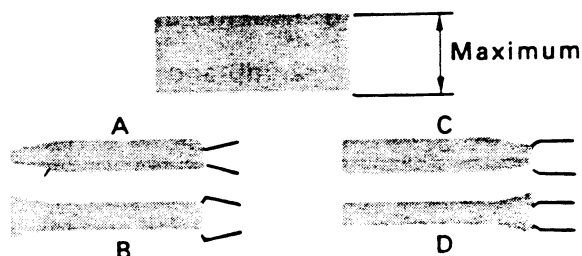
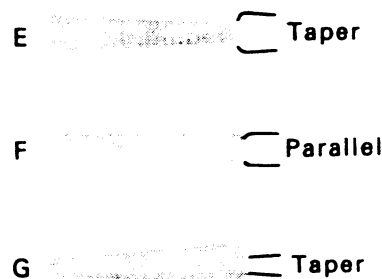

Fig.7-8 Minimum FM output (incorrect examples)
Fig.7-9 Minimum FM output (correct examples)
- b) If there are waveforms as shown by A or B in Fig.7-8, carefully adjust the supply guide roller height so that the waveform appears as shown by E, F, or G in Fig.7-9. At this time, if the waveform fluctuates, adjust to the point of minimum fluctuation.
- c) If the FM waveform appears as shown by C or D in Fig.7-8, carefully adjust the take-up guide roller height to obtain a waveform such as shown by E, F, or G in Fig.7-9. At this time, if the waveform fluctuates, adjust to the point of minimum fluctuation.
- d) Vary the Tracking control from maximum to minimum FM output. Perform fine adjustment of supply and take-up guide rollers so that waveform variation appears as shown by E, F, or G of Fig.7-9.